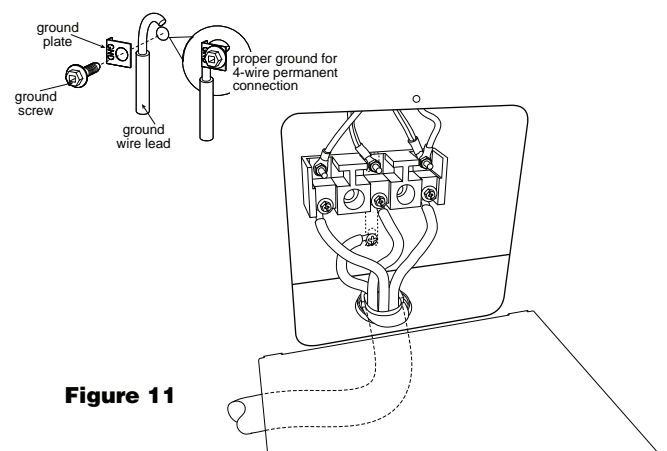

Figure 11
- 4 Connect the green ground wire lead to the frame of the range using the ground screw and plate as shown in Figure 11. Be sure to install using the same hole in the frame where the ground screw was originally installed.